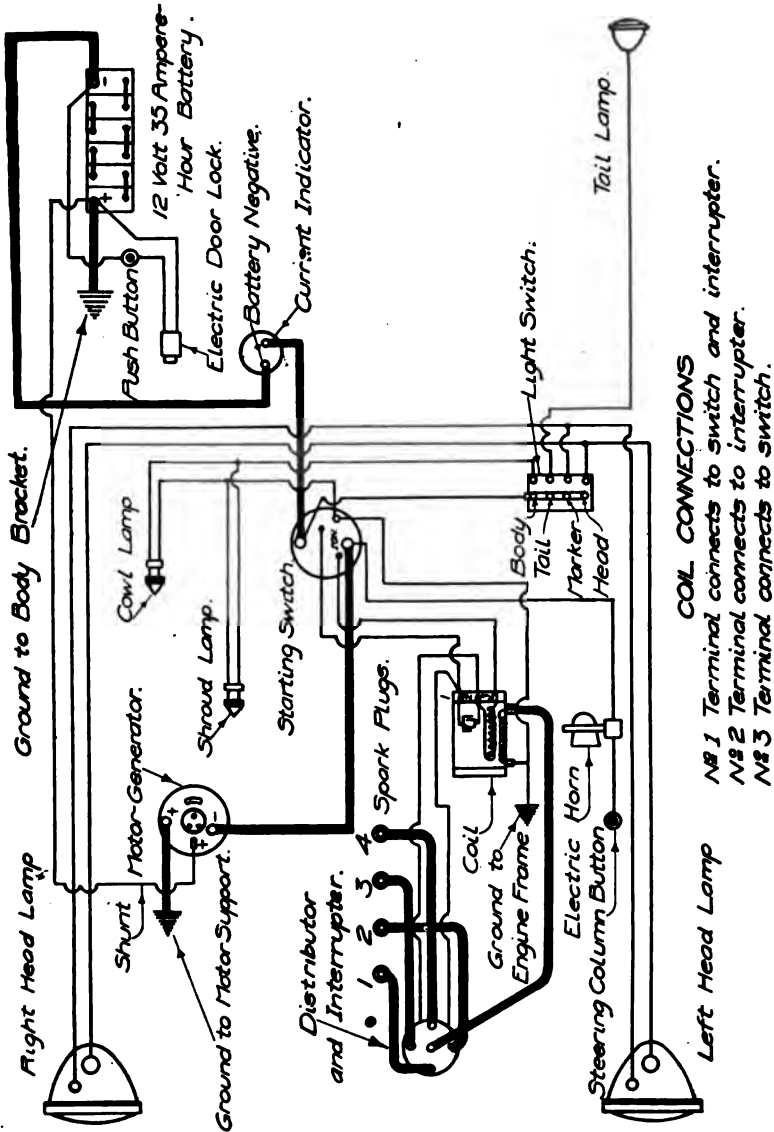

Fig. 232. Bijur System as Installed on Earlier Models of Scripps-Booth Cars
\* Earlier models like Fig. 232 used a two-way switch.
**drive)** at a car speed of less than 10 miles per hour. Failure to indicate a charge at speeds higher than this is a sign that the generator belt is too loose or that the generator itself is inoperative. To determine this, remove No. 10 black wire, Fig. 232, connected to No. 6 post on the terminal block, which goes into the aluminum box above it. Connect a voltmeter between this wire and the chassis and run the engine at a speed corresponding to a travel of 15 miles per hour on high gear. The voltmeter should indicate 7.3 to 7.4 volts. Instructions regarding brushes, commutator, and tests of armature- and field-winding circuits with the aid of testing lamp as given in connection with the Auto-Lite system apply to determine the nature of the fault in the generator. A special disconnecting plug is incorporated in the regulator box on top of the generator. This plug has two flat parallel faces and should never rest in its receptacle so that these flat faces stand in a vertical position, but should be pushed in and turned in either direction past its central position until it locks. When making tests for generator faults see that this plug is in the proper position to close the generator circuit.
If necessity requires the operation of the car with the battery disconnected, disconnect the wires from the generator at the machine, as otherwise it is liable to injury. On the earlier Scripps-Booth models, Fig. 232, the engine should not be used as a brake in running down hill except in emergencies, but on later models, Fig. 233, this may be done without injury to the dynamotor by throwing the switch to the *off* position. By referring to the wiring diagram it will be noted that the shroud-lamp and cowl-lamp bulbs